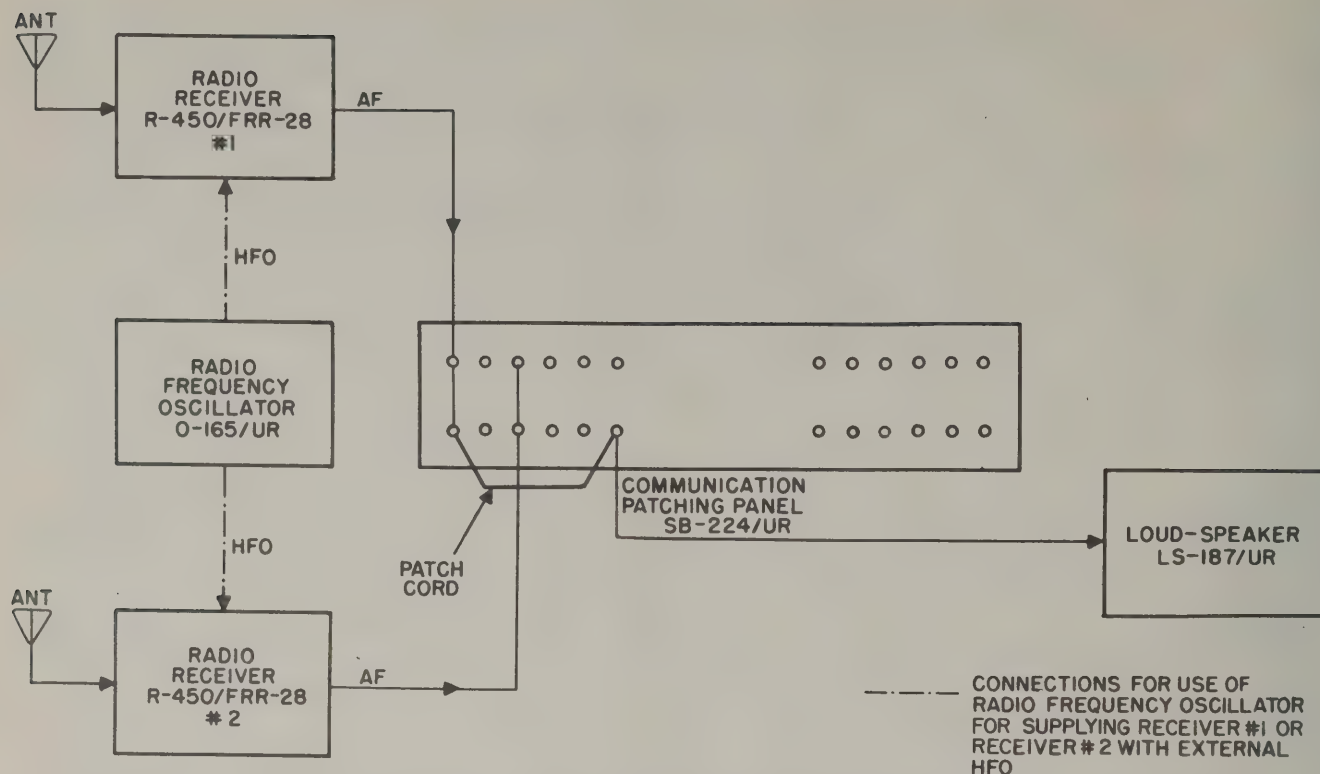

Figure 2-1. Radio Receiving Set AN/FRR-28, Block Diagram, Individual Reception of Phone Signals
a. INDIVIDUAL RECEPTION OF AM RADIO-PHONE SIGNALS. (See figure 2-1.)—The AM radio-phone signal from the antenna is preselected, amplified, and converted to an audio signal in one of the receivers. The audio output of either receiver is fed through Communication Patching Panel SB-224/UR and a patch cord to the speaker. The HFO section of RF Oscillator O-165/UR is used when the receiver HFO is inoperative, or when greater receiver stability is desired.